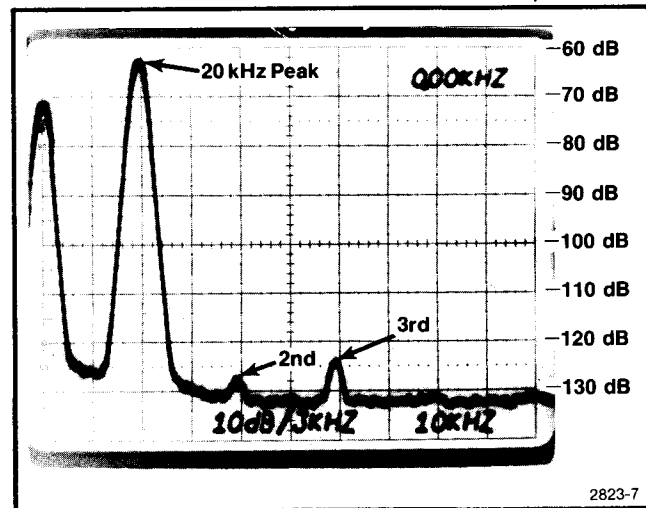

Fig. 4-4. 20 kHz harmonic distortion display.
- o. Adjust the 7L5 reference level control to position the 20 kHz peak on the top horizontal graticule line. This line is the -60 dB reference level (see Fig. 4-4).
- p. Set the calibration fixture Mode to Notch (in) and Atten to 0 dB (out). Adjust the SG 505 FREQ VERNIER control and the two calibration fixture Adjust For Null controls to position the 20 kHz peak below the top horizontal graticule line (see Fig. 4-4).
- q. Note the 2nd, 3rd, 4th, and 5th harmonics on the waveform, or as many of these harmonics as are visible. See Fig. 4-4 and compute the thd using the formula in step 9 part h.
- t. Repeat step 9 parts n through q, except position the 50 kHz peak (2nd peak) of the waveform (see Fig. 4-4).
- w. Repeat step 9 parts n through q, except position the 100 kHz peak (2nd peak) of the waveform. The waveform is similar to that in Fig. 4-4.